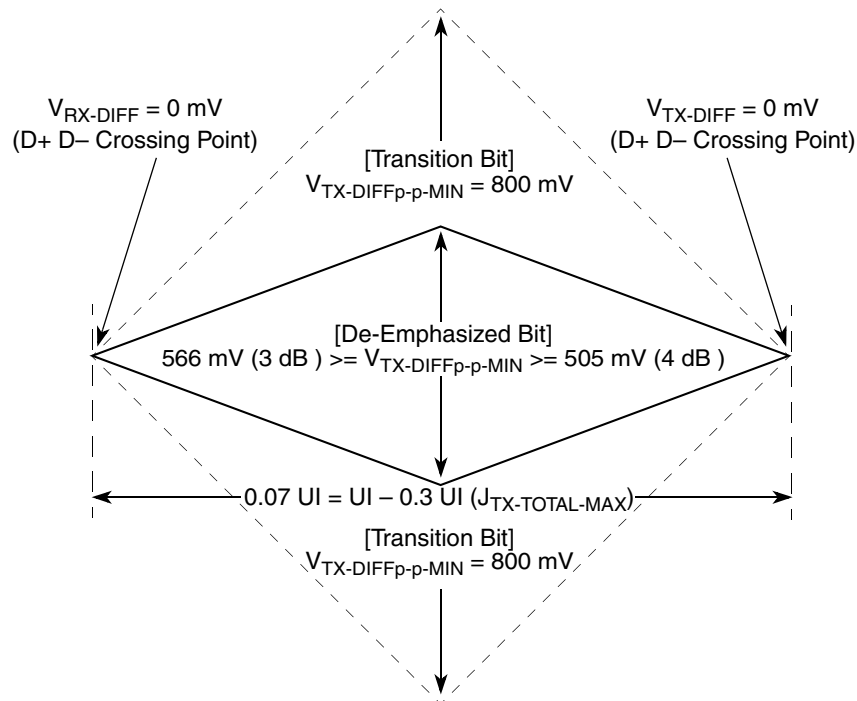
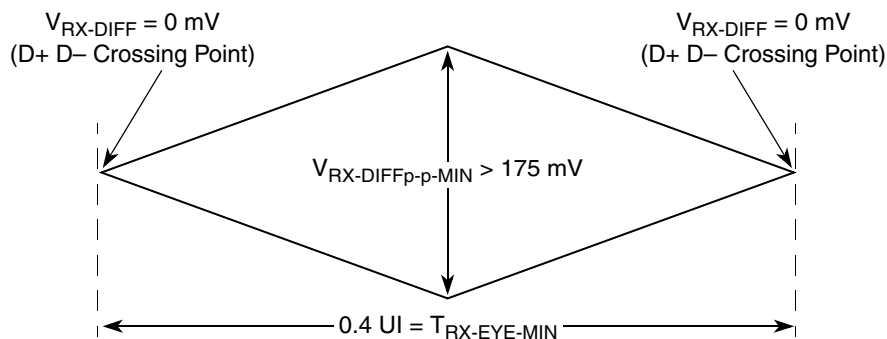
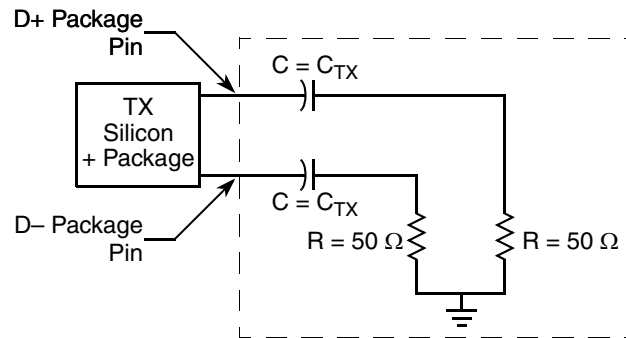

Figure 50. Minimum Transmitter Timing and Voltage Output Compliance Specifications
Figure 51. Minimum Receiver Eye Timing and Voltage Compliance Specification
Figure 52. Compliance Test/Measurement Load
2. Specified at the measurement point into a timing and voltage compliance test load as shown in Figure 52 and measured over any 250 consecutive TX UIs. (Also refer to the transmitter compliance eye diagram shown in Figure 50)
4. The Transmitter input impedance shall result in a differential return loss greater than or equal to 12 dB and a common mode return loss greater than or equal to 6 dB over a frequency range of 50 MHz to 1.25 GHz. This input impedance requirement applies to all valid input levels. The reference impedance for return loss measurements is 50 Ω to ground for both the D+ and D- line (that is, as measured by a Vector Network Analyzer with 50 ohm probes—see Figure 52). Note that the series capacitors C_{TX} is optional for the return loss measurement.
5. Measured between 20-80% at transmitter package pins into a test load as shown in Figure 52 for both V_{TX-D+} and V_{TX-D-} .
The TX eye diagram in Figure 50 is specified using the passive compliance/test measurement load (see Figure 52) in place of any real PCI Express interconnect + RX component.
- Specified at the measurement point and measured over any 250 consecutive UIs. The test load in Figure 52 should be used as the RX device when taking measurements (also refer to the Receiver compliance eye diagram shown in Figure 51). If the clocks to the RX and TX are not derived from the same reference clock, the TX UI recovered from 3500 consecutive UI must be used as a reference for the eye diagram.
- The Receiver input impedance shall result in a differential return loss greater than or equal to 15 dB with the D+ line biased to 300 mV and the D- line biased to -300 mV and a common mode return loss greater than or equal to 6 dB (no bias required) over a frequency range of 50 MHz to 1.25 GHz. This input impedance requirement applies to all valid input levels. The reference impedance for return loss measurements for is 50Ω to ground for both the D+ and D- line (that is, as measured by a Vector Network Analyzer with 50 ohm probes - see Figure 52). Note: that the series capacitors C_{TX} is optional for the return loss measurement.
The RX eye diagram in Figure 51 is specified using the passive compliance/test measurement load (see Figure 52) in place of any real PCI Express RX component.
Note: In general, the minimum Receiver eye diagram measured with the compliance/test measurement load (see Figure 52) will be larger than the minimum Receiver eye diagram measured over a range of systems at the input Receiver of any real PCI Express component. The degraded eye diagram at the input Receiver is due to traces internal to the package as well as silicon parasitic characteristics which cause the real PCI Express component to vary in impedance from the compliance/test measurement load. The input Receiver eye diagram is implementation specific and is not specified. RX component designer should
provide additional margin to adequately compensate for the degraded minimum Receiver eye diagram (shown in Figure 51) expected at the input Receiver based on some adequate combination of system simulations and the Return Loss measured looking into the RX package and silicon. The RX eye diagram must be aligned in time using the jitter median to locate the center of the eye diagram.
The reference impedance for return loss measurements is 50Ω to ground for both the D+ and D- line (that is, as measured by a Vector Network Analyzer with 50Ω probes—see Figure 52). Note that the series capacitors, C_{TX}, are optional for the return loss measurement.
The AC timing and voltage parameters must be verified at the measurement point, as specified within 0.2 inches of the package pins, into a test/measurement load shown in Figure 52.